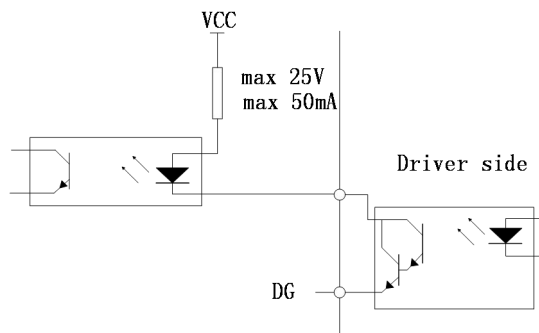
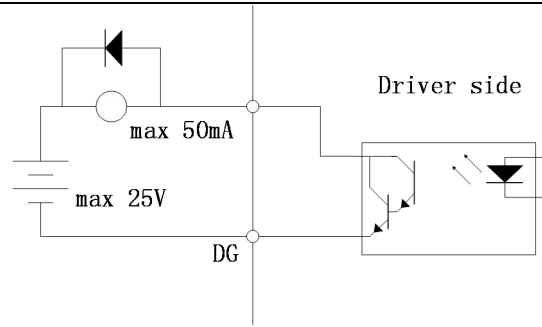

Fig. 2-6a: Type2 Switch Output Interface (photoelectric coupler)
Fig. 2-6b: Type2 Switch Output Interface (relay)
1. The DO4 output transistor is a Darlington transistor, which will be connected to the photoelectric coupler (Fig. 2-6a) or relay (Fig. 2-6b).